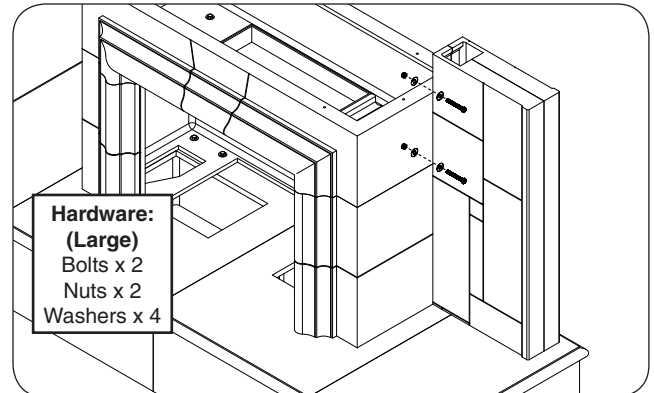

Fig. 18-3 Assemble front side-wall (skip if n/a)
3. Place the front side-wall piece beside the fireplace body as shown. Carefully align the pilot holes, and repeat the hardware installation process (large hardware kits). See Fig. 18-3.